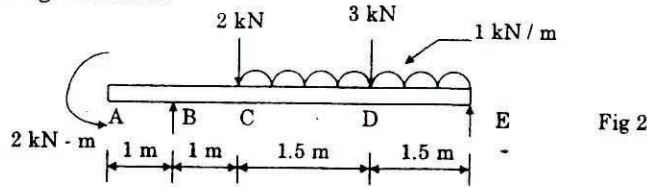

Fig 2
- IV. (a) Draw SFD and BMD for the beam shown in Fig. 2. Indicate the position and the magnitude of maximum bending moment.